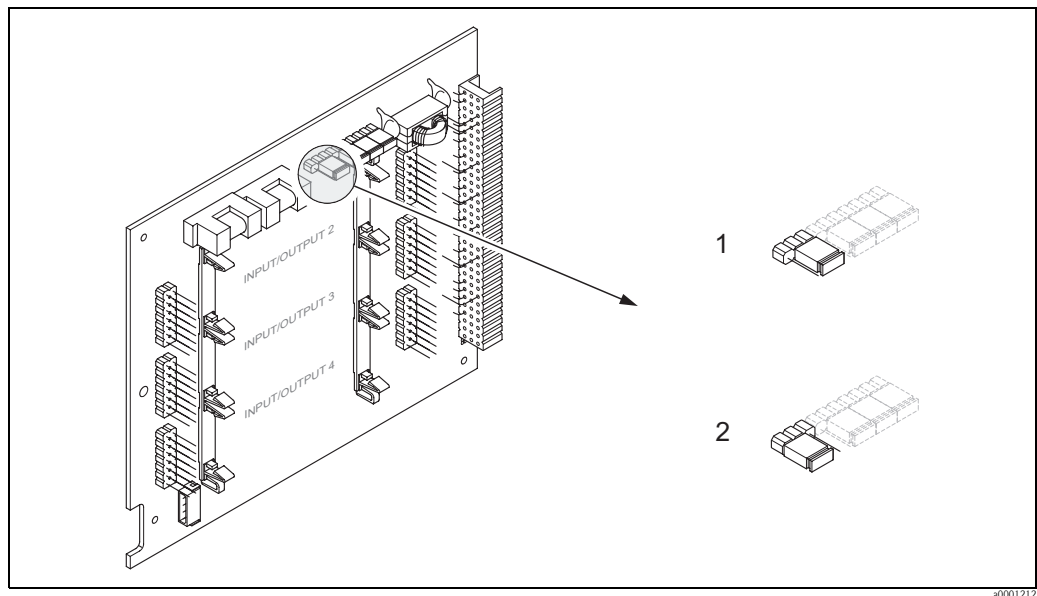

Fig. 32: Switching HART write protection on and off
3. Switch HART write protection on or off, as applicable, by means of the jumper → Fig. 32.